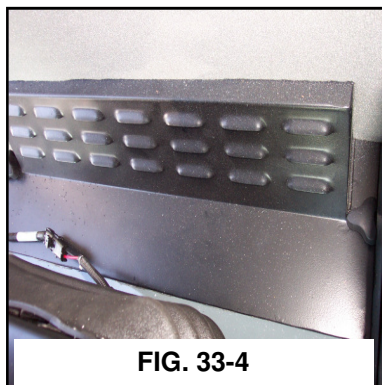

FIG. 33-4
**CAB FILTERS**– Inside the cab are two filters (fig. 33-4), a charcoal filter and a paper filter. Refer to the SERVICE section B on filters for maintenance information. Refer to the Hagie Parts Manual for replacement part information.